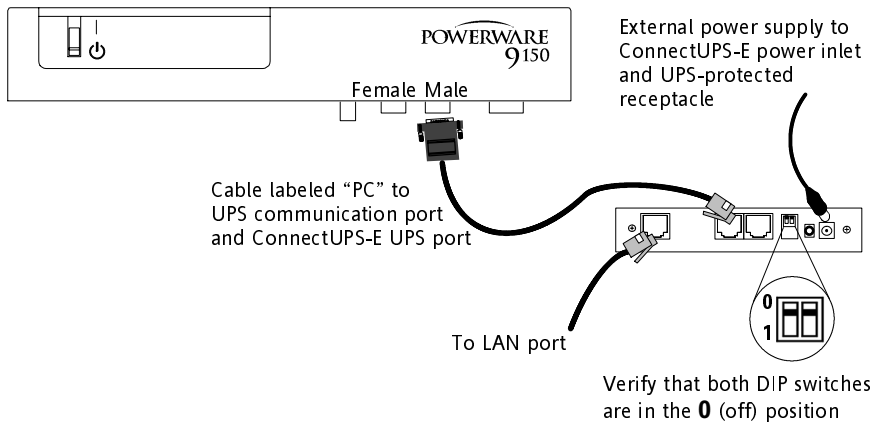

Figure 8. Alternate Installation with a Powerware 9150 UPS
4. **If the female port is not available**, use the supplied serial cable labeled “PC” to connect the UPS port on the ConnectUPS-E to the male, 9-pin, RS-232 port on the UPS (see Figure 8).